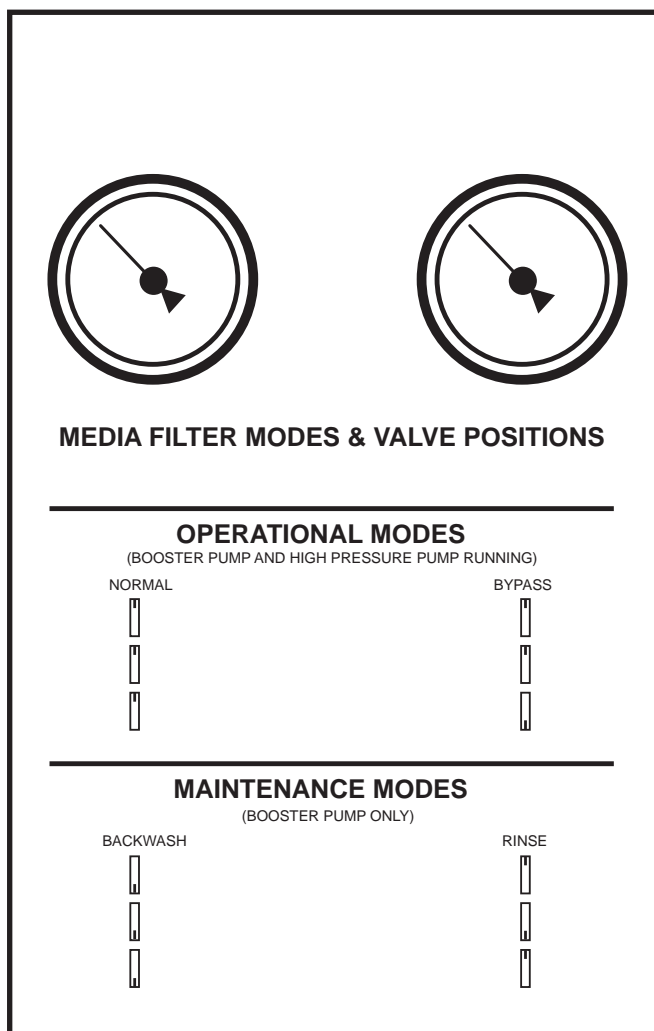

Figure 24. Media Filter Maintenance Mode Valve Positions
4. Align the media filter maintenance mode valves (figure 21, item 6) to the “BACKWASH” position as shown in figure 24.
10. Align the media filter maintenance mode valves (figure 21, item 6) to the “RINSE” position as shown in figure 24.
16. Align the media filter maintenance mode valves (figure 21, item 6) to the “NORMAL” position as shown in figure 24.